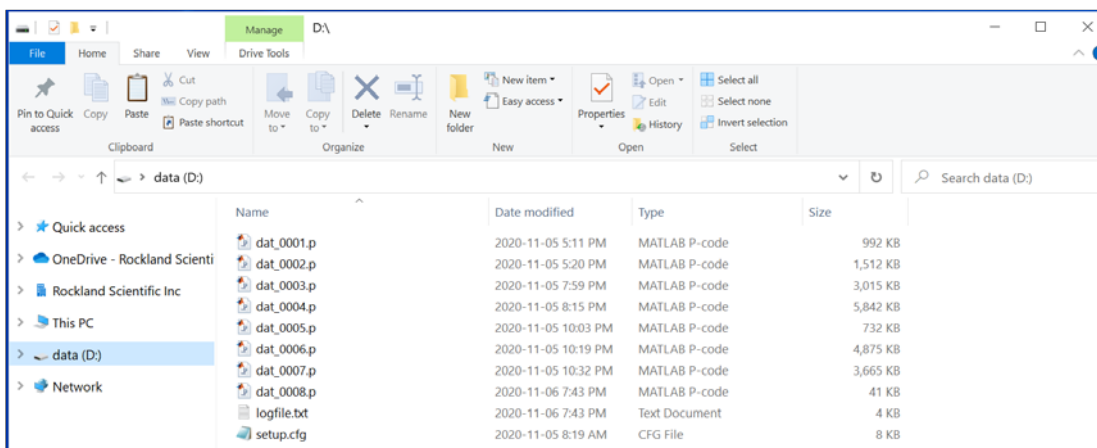

Figure 28: Connecting to the instrument as a mass storage device.
7. Double click on the Data Drive to open it and view the contents of the RDL Memory Module on the instrument (Figure 28).